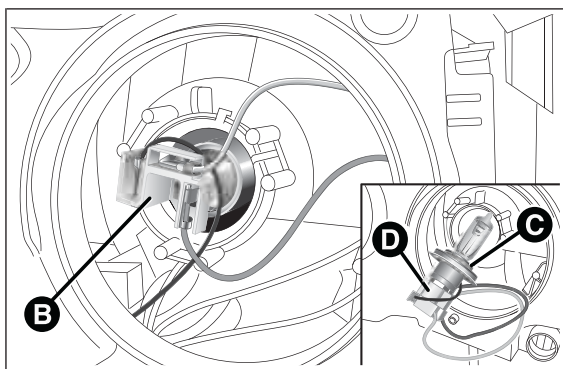

fig. 116
- ☐ push the connector + bulb holder unit B fig. 116 downwards;